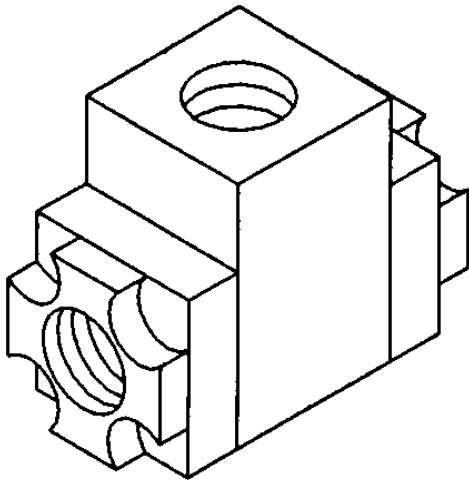

FIGURE 4-7 – SHUTTLE VALVE
Shuttle Valve (FIGURE 4-7) – Also known as a double check valve, the shuttle valve is a device which will take two (2) supply signals and allow the one with the highest pressure to pass through. The shuttle valve is used to provide control air pressure from either the reservoir or plant air system, as required during different operating conditions.